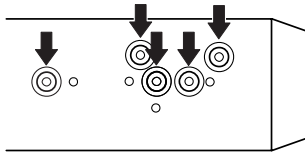
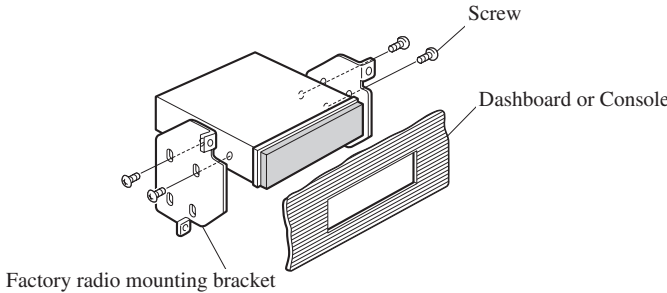

Fig. 9
Fig. 10
2. Fastening the unit to the factory radio mounting bracket. (Fig. 9) (Fig. 10)